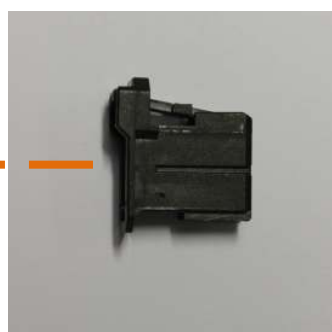

Fig 4
5. Fit connector from the kit – See Fig 4